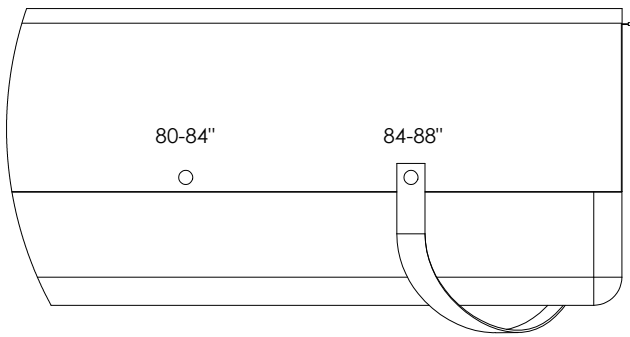

Figure 3
5. Secure the straps at the head end by connecting using the appropriate set of snaps depending on the length of the mattress (Figure 3)